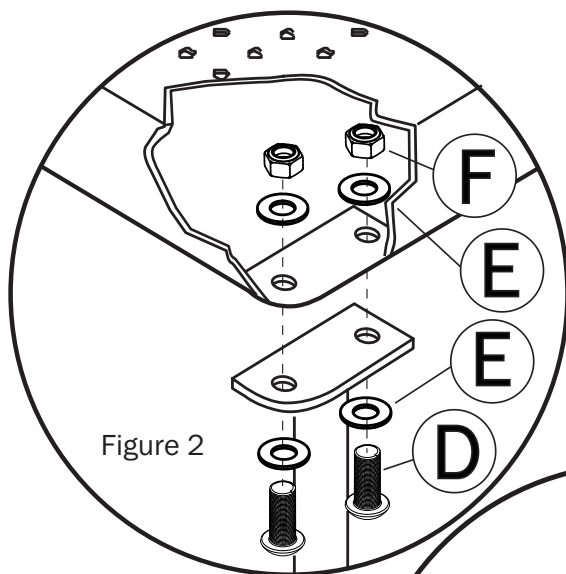

Figure 2
5. Insert (2) Bolts(D) and (2) Washers(E) into underside of Deck Support(B), through bracket on underside of ADA Deck(A) and secure with (2) Flat Washers(E) and (2) Lock Nuts(F). See Figure 2.
5. Insert (2) Bolts(E) and (2) Flat Washers (F) into ADA Handhold(A), into holes in ADA Deck and secure with (2) Flat Washers(F) and (2) Lock Nuts(D). See *Figure 2*.